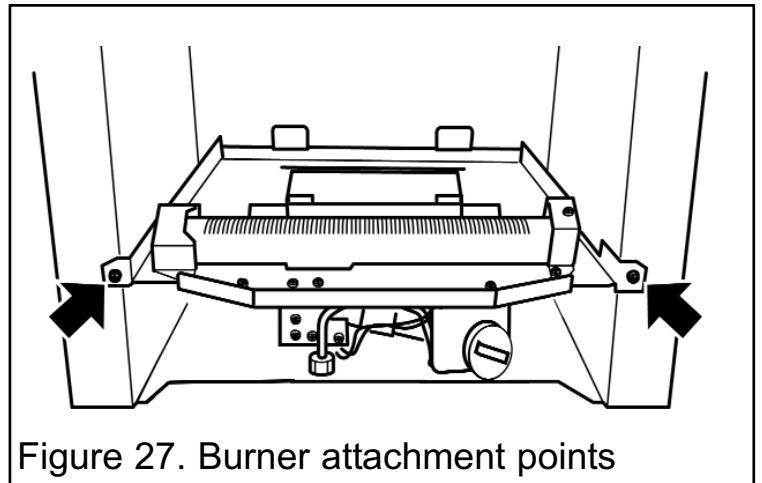

Figure 27. Burner attachment points
6. Remove the two burner securing screws (See figure 27).